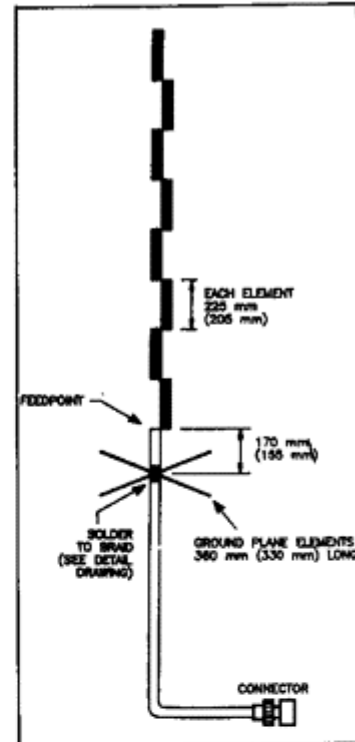

Figure 3. The general form of the UHF coaxial collinear antenna described. Dimensions are shown for the 70cm amateur band and the UHF CB band (in brackets).
The general arrangement and dimensions of an 8-element coaxial collinear array are shown in Figure 3. The dimensions shown put the antenna's centre frequency on 436.5MHz for the 70cm amateur band; the dimensions in brackets put the antenna's centre frequency on 476.9MHz, the middle of the UHF CB band. This makes the array of a size which is readily handled – about two metres tall for the 70cm version, and about 1.8 metres tall for the UHF CB version.
12) Cut two lengths of tinned copper wire or brazing rod to size: each 360mm long for the 70cm amateur band, and 330mm long for the UHF CB band (see Figure 3). If you're using tinned copper wire, straighten it first. This can be done by clamping one end in a vise, grasping the other end with a pair of pliers and giving it a good tug. It will bow a bit after you take it out of the vise, but then you can straighten it easily by hand. Tin the centre of each groundplane element.